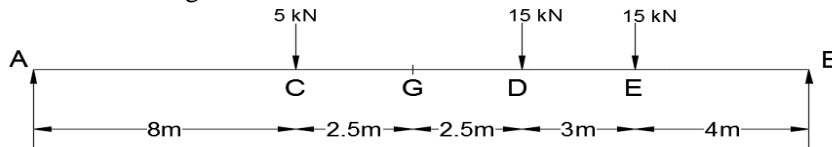

Fig.5
7. (a) Find the shear force at a section **G** for the loaded simply supported beam shown in **Fig.5** **7M** by using influence line diagram. Also find shear forces.